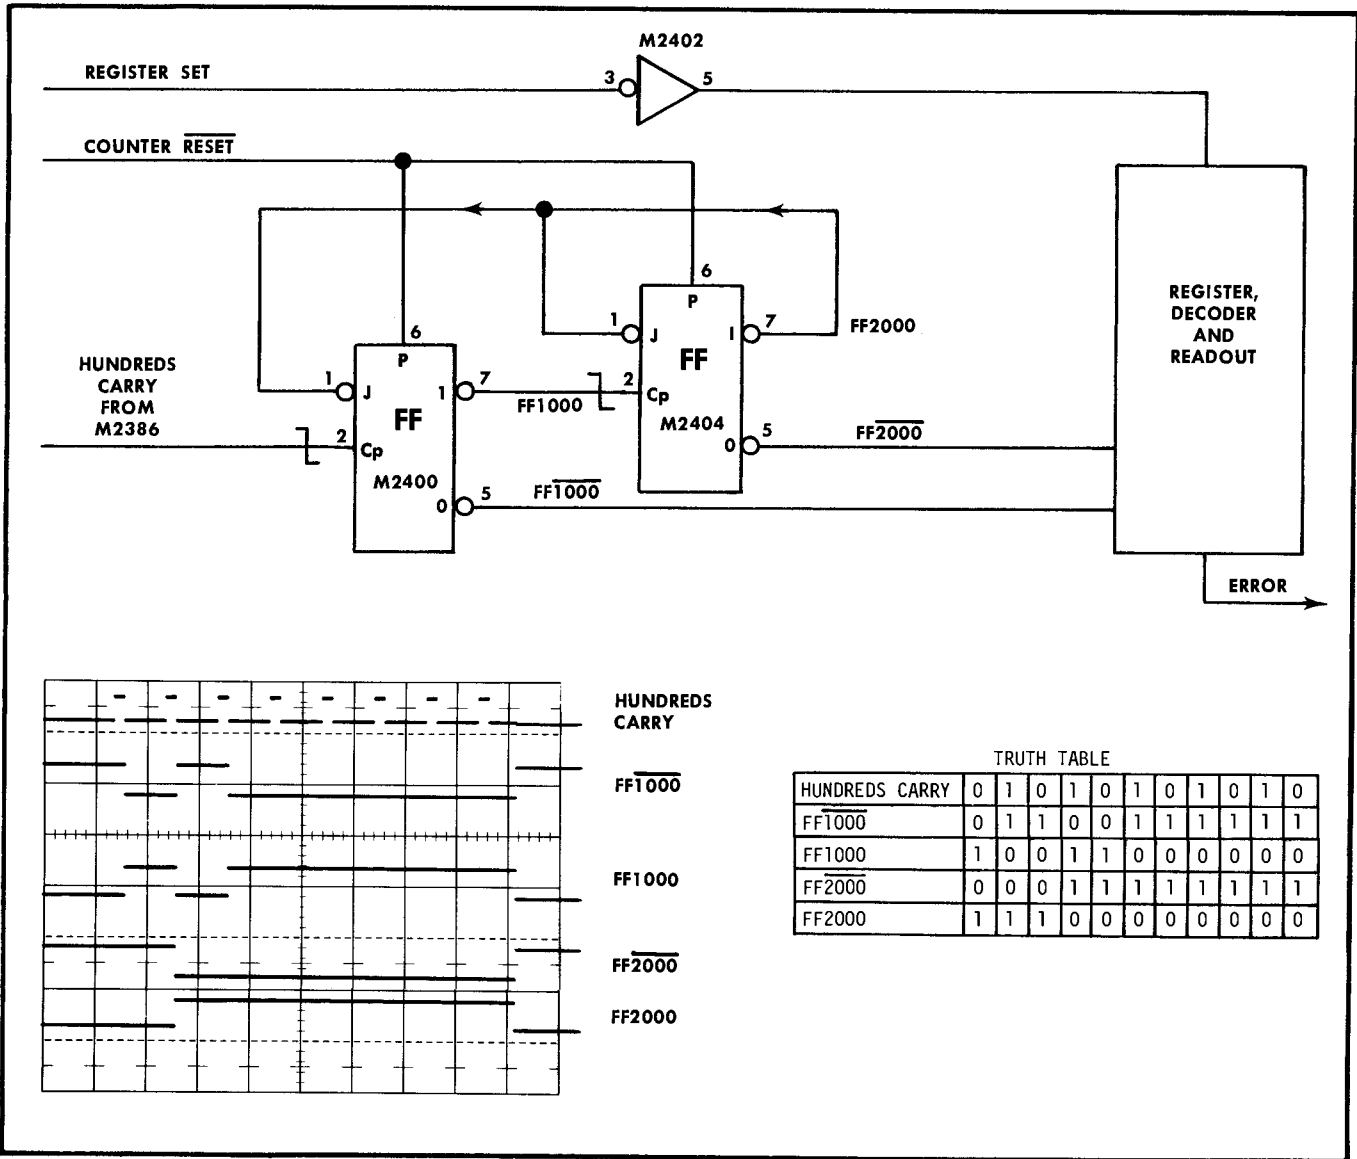

Fig. 4-40. 1000s Counter.
**Thousands Counter.** Since the overall counting operation does not require the counter to count above decimal 3999, the thousands counter (see Fig. 4-40) consists of two flipflops. Flipflops M2400 and M2404 operate as a two-stage ripple-through counter until a binary count of three (1-1) is accumulated. On the count of three, a feedback loop from the reset side (pin 7) of M2404 locks up the two flipflops until a RESET pulse is received.